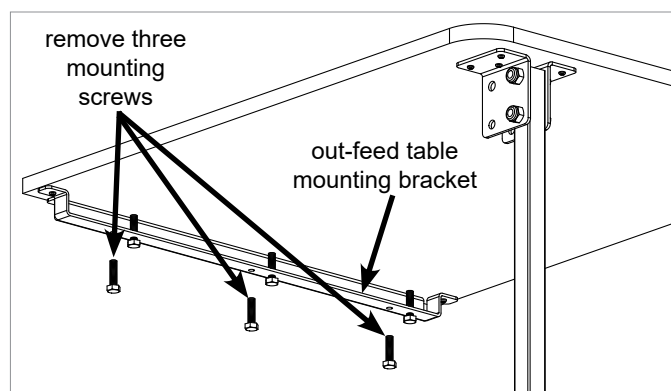

Fig. 3
3. A mounting bracket is attached to the bottom of the out-feed table along the edge opposite the legs, and six M8 x 30 screws are in the mounting bracket. Three of these screws are mounting screws used to attach the out-feed table to the rear rail of the saw and the other three screws are adjustment screws used to level the out-feed table to the saw. Remove the three mounting screws shown in Fig. 3, being careful to remove the correct screws. If you remove the wrong screws, the miter slots in the out-feed table will not align with the miter slots in the saw table. Also, loosen the three adjustment screws several turns.